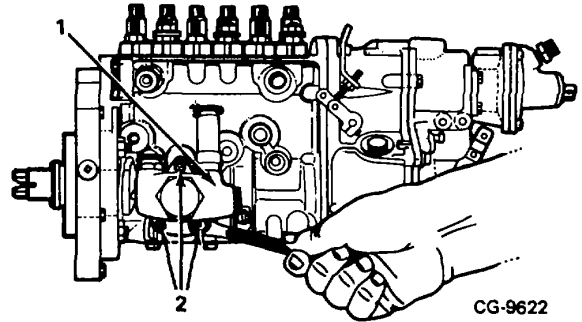

Figure 2. Removing Fuel Supply Pump
5. Remove fuel supply pump mounting bolts (Figure 2). Remove supply pump and drain lubricating oil into a container.